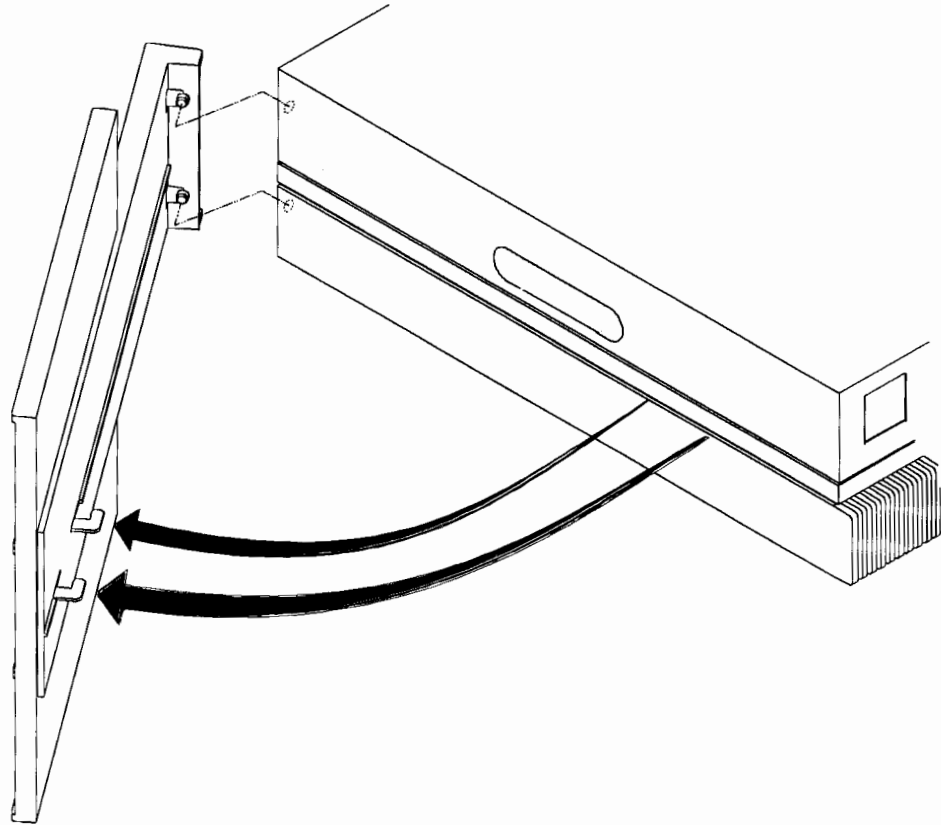

Figure B-3. Removing the Floor Stand
6. Swing the end of the floor stand away from the system unit and remove it from the system unit. See Figure B-3.